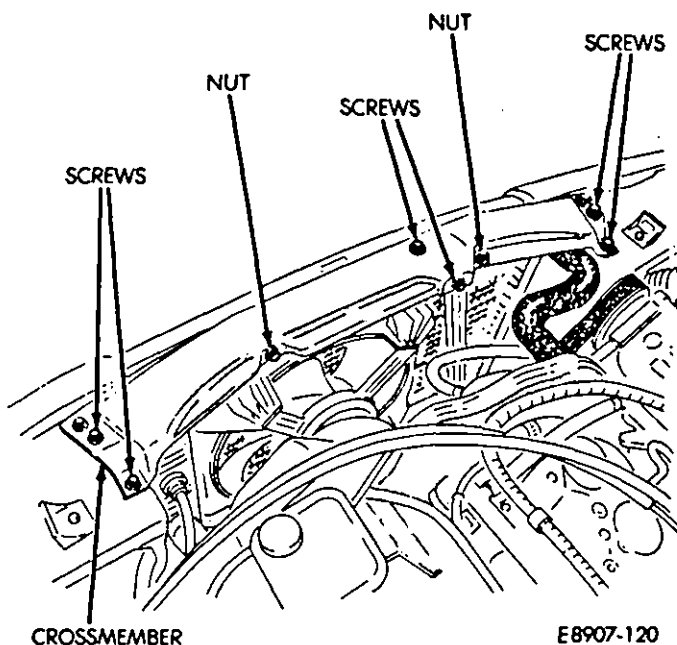

Fig 13—Radiator Crossmember Removal/Installation
- (1) Disconnect negative cable from battery.
- (2) Remove support bracket screws, vibration cushion nuts, and radiator upper crossmember mounting screws (Fig. 13).
- (3) Remove crossmember (Fig. 13).
- (4) Install crossmember and tighten crossmember mounting screws, vibration cushion nuts, support bracket screws (Fig. 13).